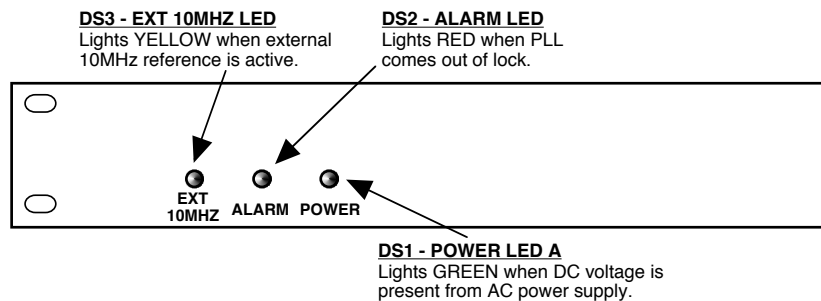

FIGURE 2.2 2116-192212 Front Panel Controls and Indicators
- 4.) Be sure DS1 (green, DC Power) is on and DS2 (red, Alarm) is off (Figure 2.2).
- 6.) If EXT is selected or AUTO is selected and there is a 10MHz, 0 dBm signal at J2, check that DS3 (yellow, Ext 10MHZ) is on (Figure 2.2).